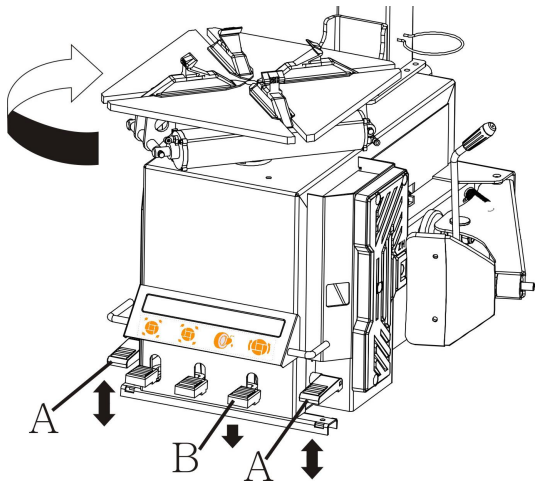

Fig.9
- Operation test : After power connected, press pedals A (Fig.9), turntable will turn clockwise. This test is very important.